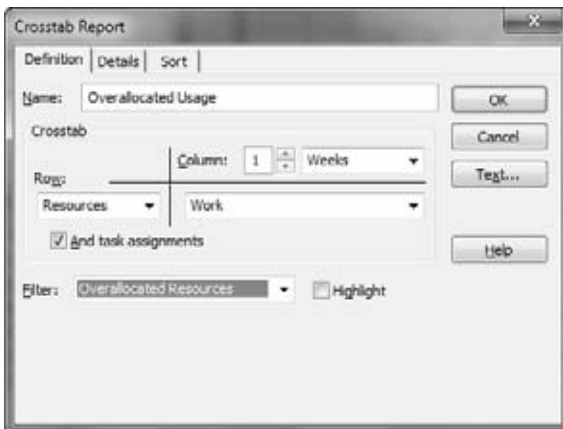

Figure 10-19:
5. To include only overallocated resources in the report, in the Filter drop-down list, choose **Overallocated Resources**, as shown in Figure 10-19.